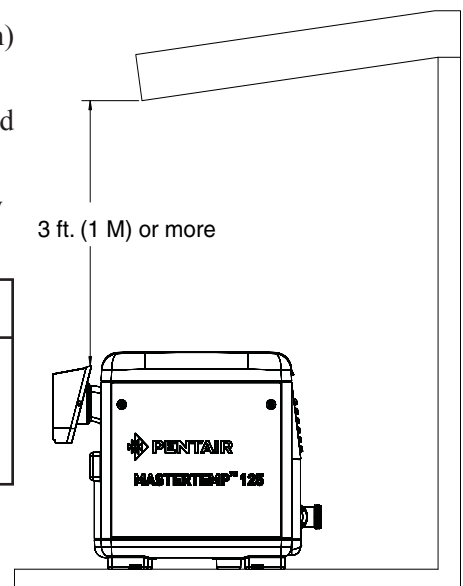

Figure 8.
If the heater is located under a roof overhang, there must be at least three (3) feet (1m) of clearance between the bottom of the overhang and the top of the heater exhaust vent, see **Figure 8**. If the heater is under a roof overhang, the space around the heater must be open on three sides. **DO NOT, under any circumstances, install the heater under ANY deck.**
For minimum exhaust vent clearances for all building openings, including but not limited to vented eaves, doors, windows, gravity air inlet, see **Figure 8, page 17**.